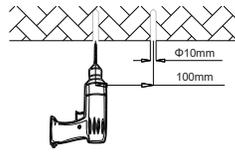

Figure 3
1. Mark with a mark pen or sharp tool on the mounting surface and drill. (Figure 3)